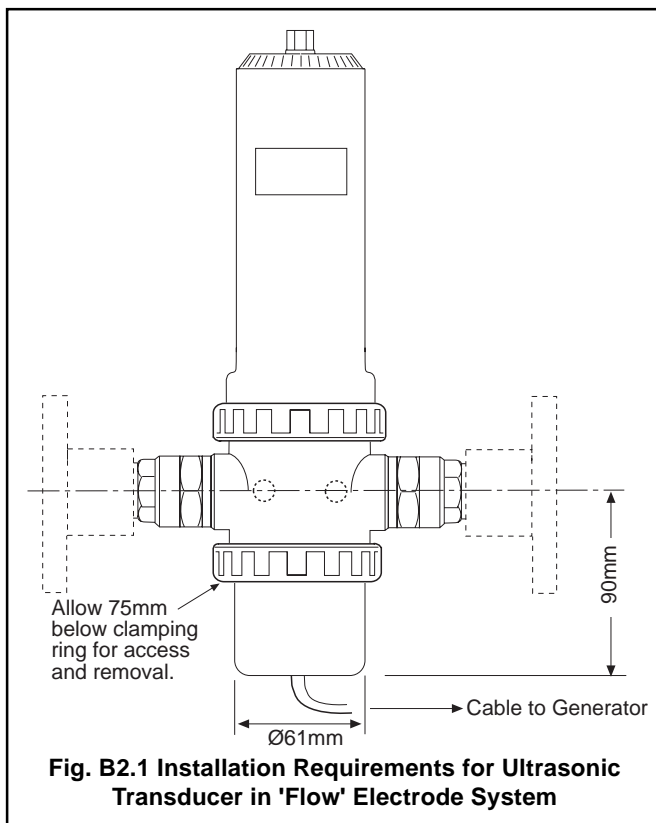

Fig. B2.1 Installation Requirements for Ultrasonic Transducer in 'Flow' Electrode System
- In the version used in the Models 7651 and 7660 Flow Systems, the base of the flowcell is replaced by the transducer element which has its output cable leaving the unit from the underside – see Fig. B2.1.
The instructions which follow are for fitting a transducer element to Models 7651/7660 Flow Systems or Models 7654/7655/7656 Dip Systems which is already installed and in operation, i.e., the ultrasonic equipment is being supplied as an 'add on' feature to an existing installation. However, where the installation is new and it is required to fit the ultrasonic cleaning facility at the outset, a completely assembled system can be installed. The dimensions of these complete systems are shown in Fig. B2.1 and B2.2.